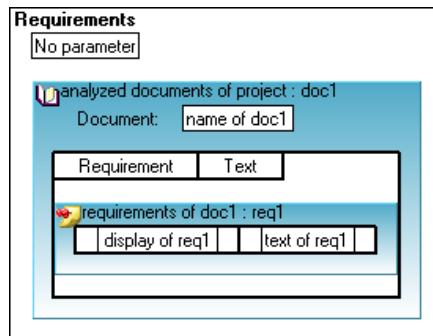

Figure 4-6. Final Custom Report
25. Click the **Data** tab and drag the **req1»Identification information»display** element and the **req1»Identification information»text** element to each of the cells in the new table row, as shown in Figure 4-6.